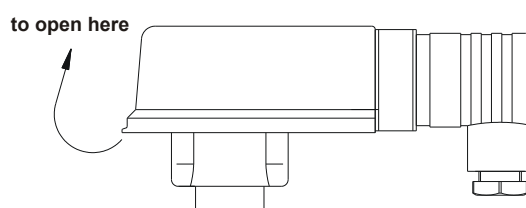

Fig.12
- To adjust the reed switching unit, open the junction box of the switch head (Fig. 12)